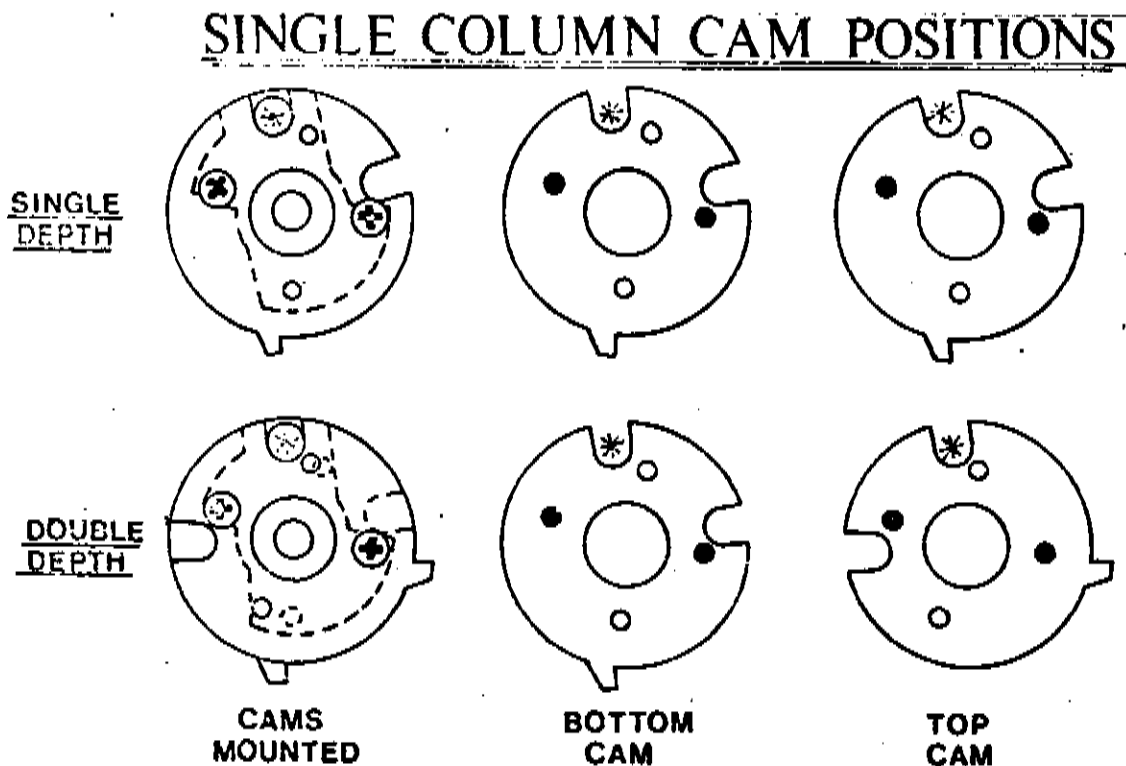

FIGURE 30
- a. Remove the retaining screws from each motor cam and rotate the TOP cam to its single depth position as shown in Figure 30. Replace the retaining screws.